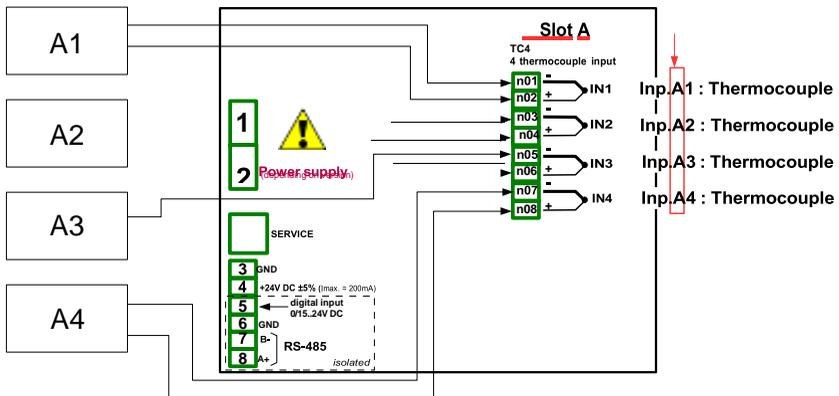

Fig. 7.68. Schematic diagram for the TC4 module
Before measuring temperature the thermocouple sensors should be connected to the device. An example of the connection is shown in **Fig. 7.68**.
- Source parameter set as **Inp. A1: Thermocouple** (see the connection in **Fig. 7.68**),
- **Source** parameter set as **Source - Inp. A2: Thermocouple** (see Fig. 7.68),
- Source parameter set as **Source - Inp. A3: Thermocouple** (see Fig. 7.68),
- Source parameter set as **Source - Inp. A4: Thermocouple** (see Fig. 7.68),